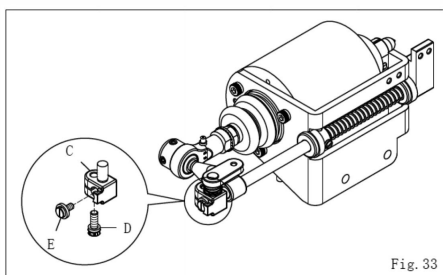

Fig. 33
调整时, 可放松连结滑块(C)上的螺丝(D), 再用螺丝刀旋转螺丝(E), 微调活动刀片左右位置至正确点后, 再锁紧螺丝(D)。(图 33)
When you would like to adjust the right & left position of Moving Knife. First, please loose the screw (D) of Connecting Block (C), to turn the screw (E) by screwdriver for micro adjusting the correct right & left position of Moving Knife., then to locked the screw (D) down. (Fig. 33)